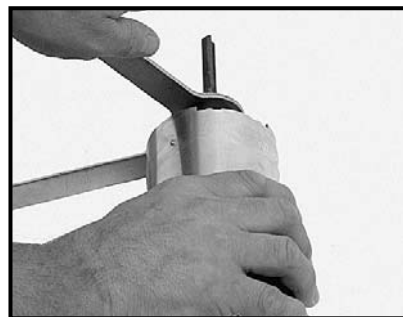

Fig. 2
5. Place one wrench on the flats of the chuck with the opposite end of the wrench resting on the bench to your left (Fig. 2).